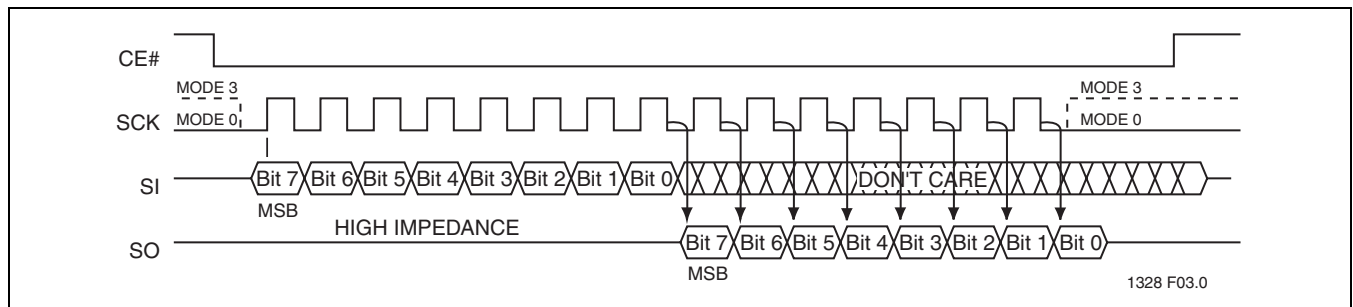

FIGURE 3: SPI Protocol
The SST25WF512/010/020 support both Mode 0 (0,0) and Mode 3 (1,1) of SPI bus operations. The difference between the two modes, as shown in Figure 3, is the state of the SCK signal when the bus master is in Stand-by mode and no data is being transferred. The SCK signal is low for Mode 0 and SCK signal is high for Mode 3. For both modes, the Serial Data In (SI) is sampled at the rising edge of the SCK clock signal and the Serial Data Output (SO) is driven after the falling edge of the SCK clock signal.